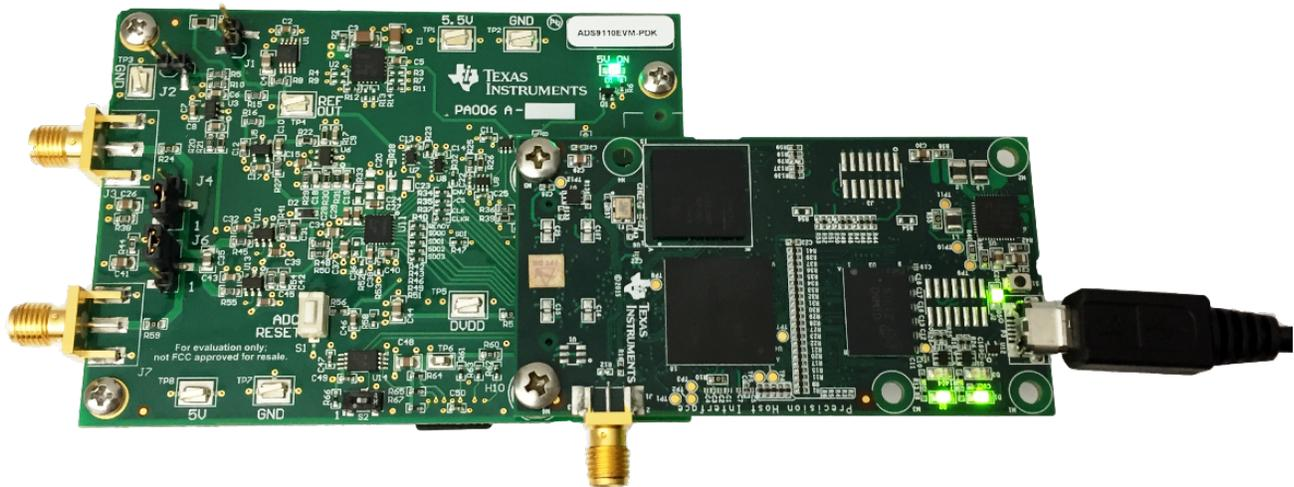

Figure 8. EVM-PDK Hardware Setup and LED Indicators
1. Connect the ADS9110EVM to the PHI. Install the two screws as indicated in Figure 8.
- LEDs D1 and D2 on the PHI starts blinking to indicate that the PHI is booted up and communicating with the PC. The resulting LED indicators are shown in Figure 8.